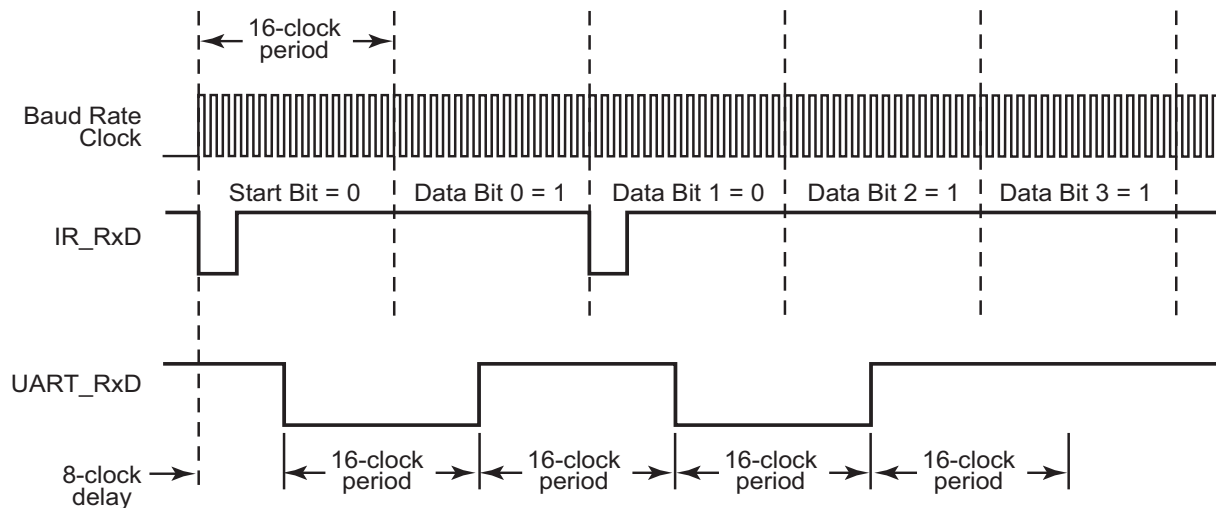

Figure 39. Infrared Data Reception
period. If the data to be received is a logical 0, a delayed Low (0) pulse is output on RxD. Data transmission is illustrated in Figure 39.